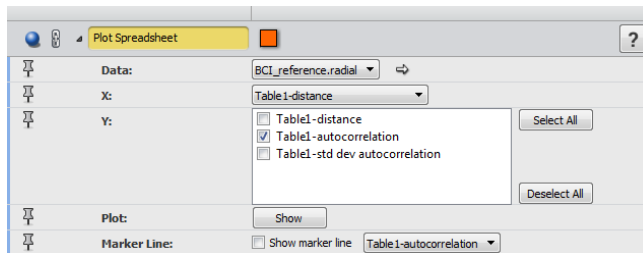

Figure 23.3: Plot Spreadsheet Module Properties
- Attach a *Plot Spreadsheet* module as shown in Figure 23.3